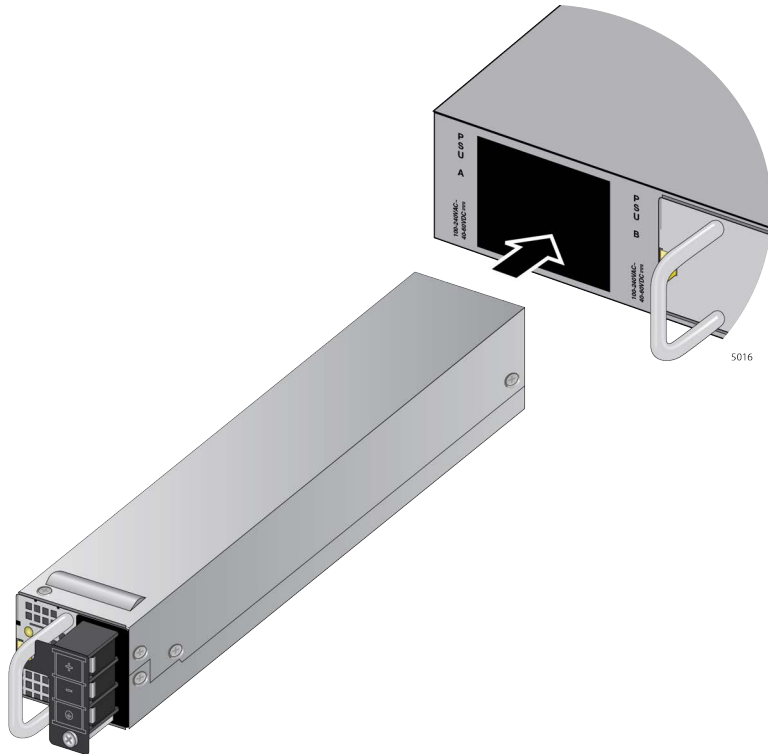

Figure 62. Sliding the PWR600 DC Power Supply into the Chassis
3. Carefully align the power supply in the slot and slide it into the slot. Figure 62 on page 129 shows the module aligned for the PSU A slot.